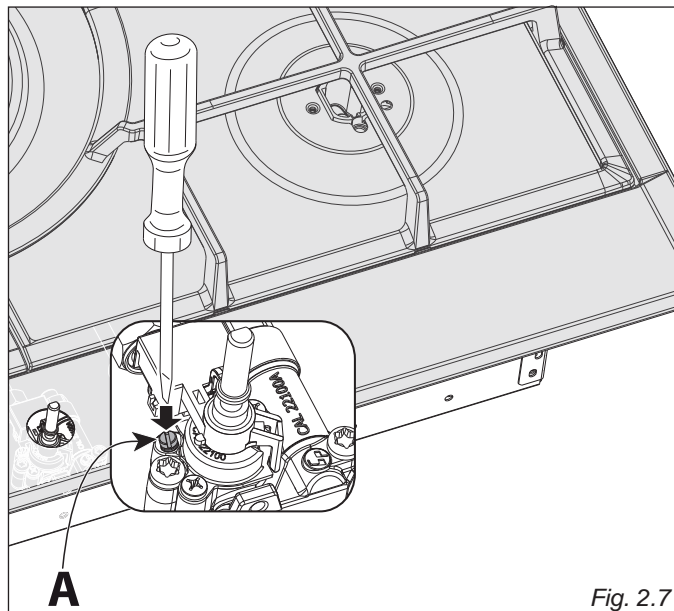

Fig. 2.7
- With a thin screwdriver, turn the regulation screw “A” (fig. 2.7) until adjustment is correct.